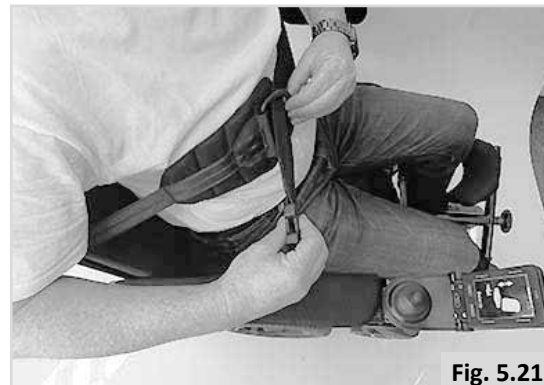

Fig. 5.21
- Pull the chest strap so that it fully supports the users upper body firmly and comfortably, (Fig.5.21).